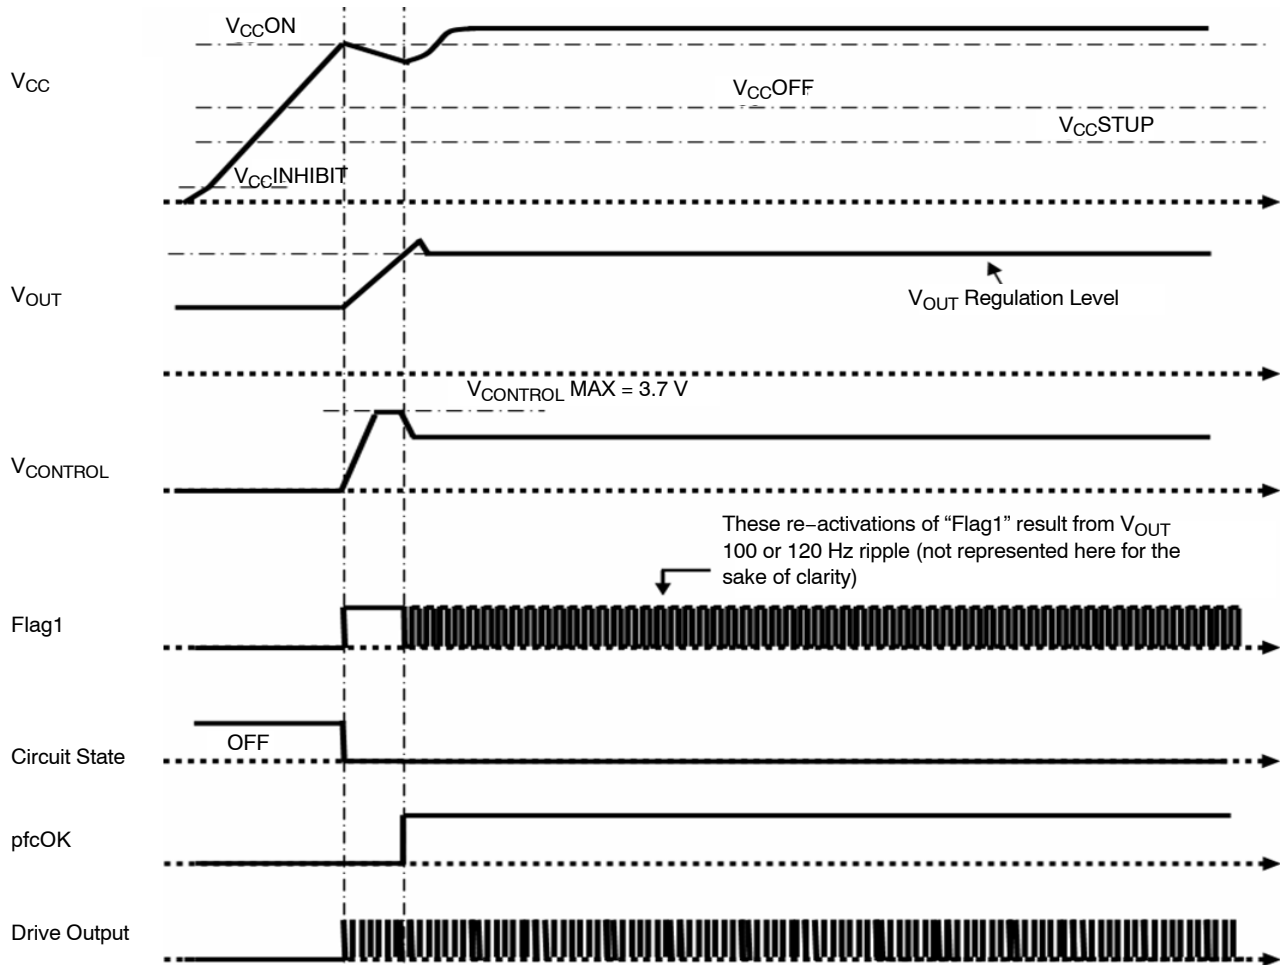

Figure 70. Startup Phase in Normal Conditions
- In case of normal conditions (Figure 70).
The output voltage exhibits a 100 or 120 Hz ripple (at twice the line frequency). This ripple is also present in the V_{CONTROL} voltage even if it is attenuated due to the regulation low bandwidth. Like that of V_{OUT} , this ripple is not represented in Figure 70, for the sake of the clarity.